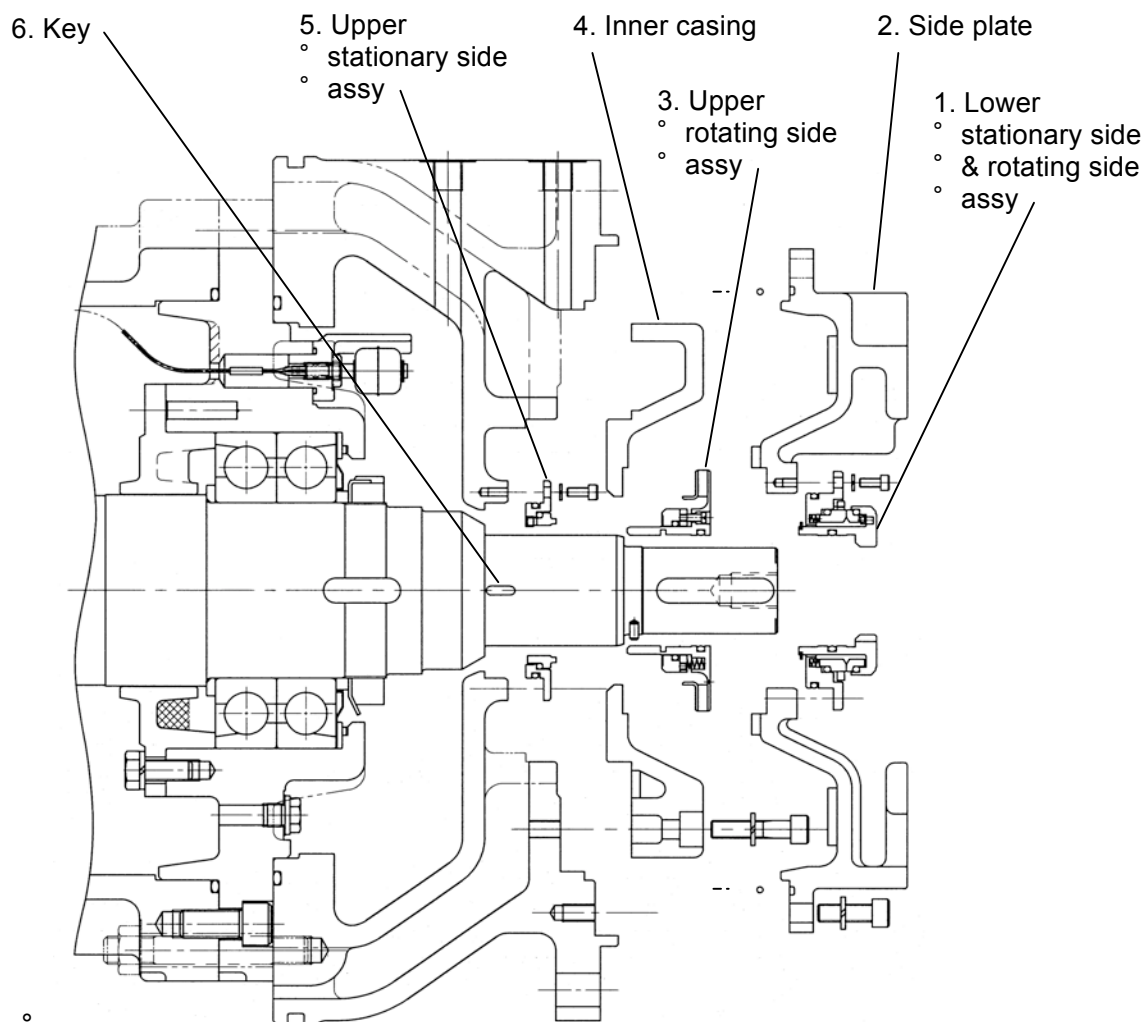

Fig. 24c
(3) Mechanical seal replacement (Refer to Fig. 24c)